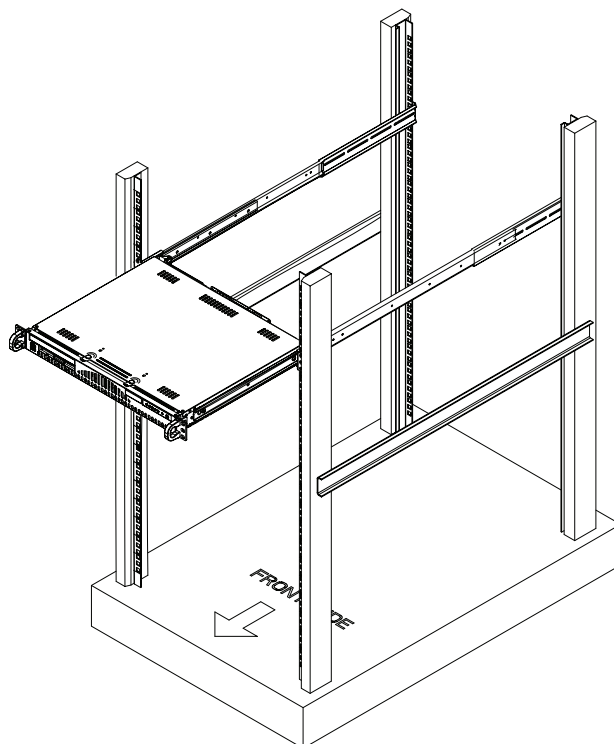

Figure 195. Installing the Controller into a Rack
6. Line up the inner rails on the controller with the outer rails on the rack. Gently slide the controller into the outer rails of the rack (see figure 195). Depress the locking tabs, if necessary, when sliding the controller into the outer rails.